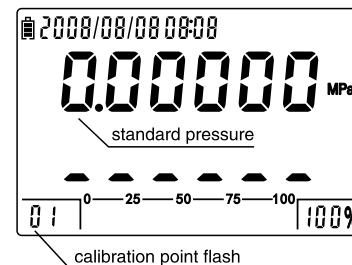

Figure 5–3–1: 1st point entrance
- (1) Press  to enter into passport menu, input the password "2003" and press  to enter into calibration menu.
- (2) Select **IP_CAL** and press  to enter into the entrance interface. The **【 01 】** of left reading area is 1st calibration point, the user can select points by using  . Please press  to start calibration. (as figure 5–3–1)